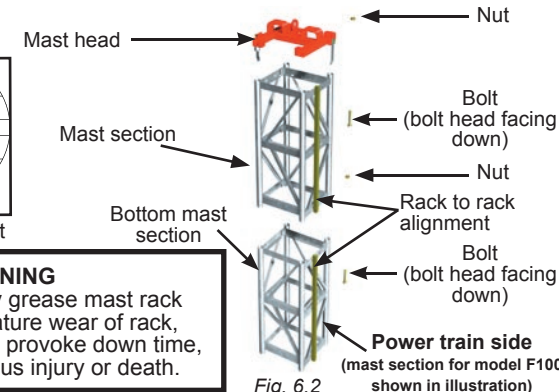

Fig. 6.2
- 3- Remove the mast head (fig. 6.2).
- 5- **On model F100**, make sure that the rack of the mast section is **on the power train side** (fig. 6.2) and aligned with the rack on the bottom mast section. **On models F200 and F300**, make sure to use **twin-rack masts**. It is recommended to handle mast sections carefully so as not to damage the mast rack(s).
- 7- Using 1"-8 x 8" GR8 bolts and 1" GR8 lock nuts, bolt all four corners together, making sure the bolt heads are facing down (fig. 6.2). Tighten the four bolt and nut assemblies to 150 lb-ft (203 N-m) of torque to secure the mast section in place.